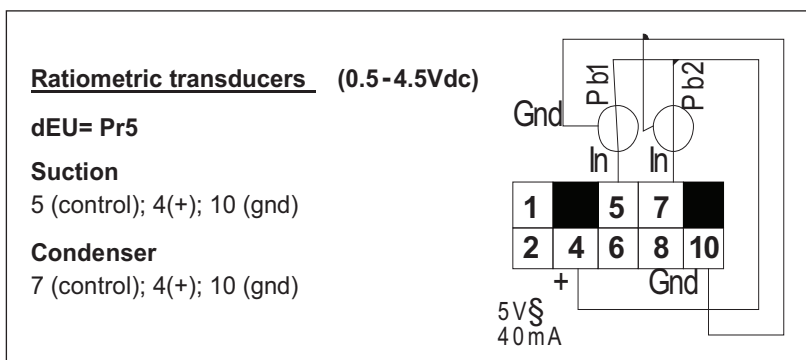

Figure 4c – Wiring for Ratiometric Pressure Transducers
- NTC 10K temperature sensors (refer to **Figure 4c**)